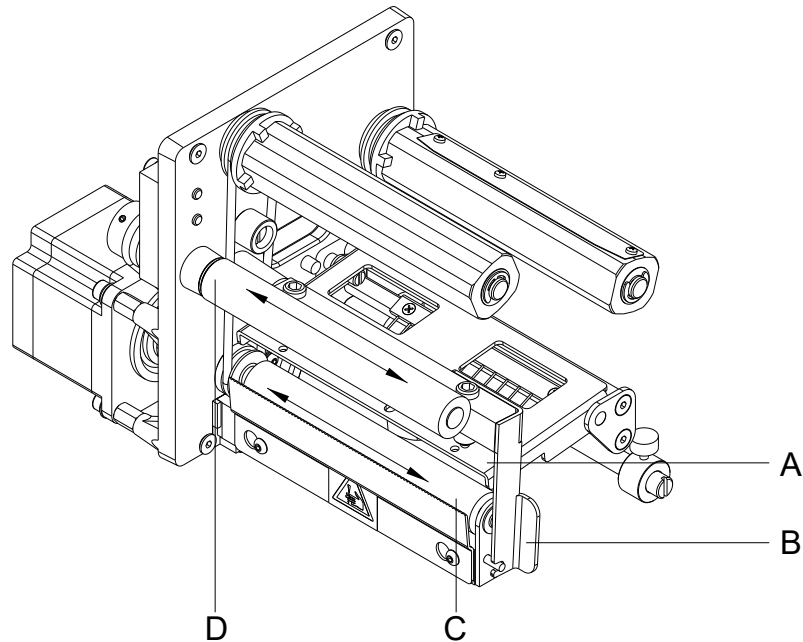

Figure 13
2. Turn the pressure lever (B, Figure 13) counter clockwise to lift up the printhead (A, Figure 13).
7. To move the printhead (A, Figure 13) down, turn the pressure lever (B, Figure 13) in clockwise direction until it locks.
2. Turn the pressure lever (B, Figure 13) counter clockwise to lift up the printhead.
4. Blow out the photocell (A) with pressure gas spray. Observe strictly the instructions on the spray can!
5. Clean the label photocell (A) additionally with a cleaning card (B) before soaked in pure alcohol. Move the cleaning card from one side to the other (see illustration).
7. To move the printhead down, turn the pressure lever (B, Figure 13) in clockwise direction until it locks.